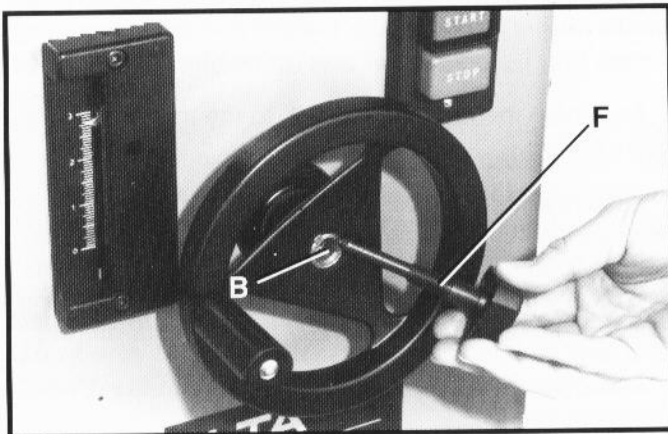

Fig. 6
4. Thread lock knob (F) Fig. 6, into the spindle shaft (B).